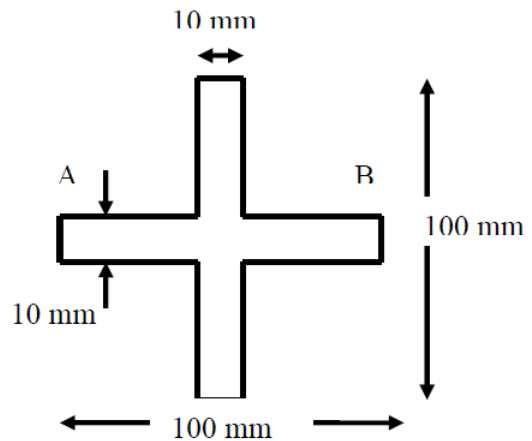

Fig. 9.2
- 9.2 The cross-section of a beam is shown in Fig 9.2. It is subjected to a vertical shear force of 10 kN. Find the shear stress at level AB at the neutral axis